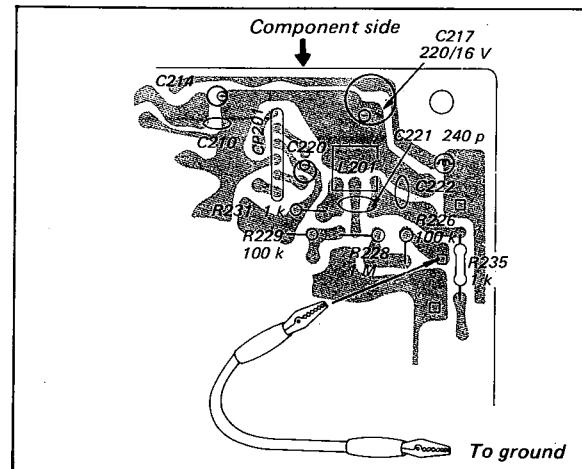

Fig. 3-1. Interruption of AFC circuit.
- Short the AFC circuit to ground as shown in Fig. 3-1.
Short the AFC circuit to ground as shown in Fig. 3-1.
Short the AFC circuit to ground as shown in Fig. 3-1 on Page 9.